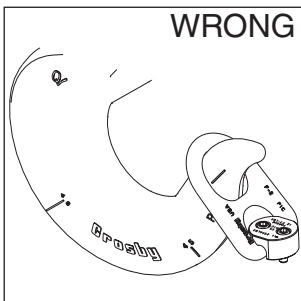

Figure 1
- Attach lifting device ensuring free fit to pivot hoist ring bail (lifting ring) (Figure 1).